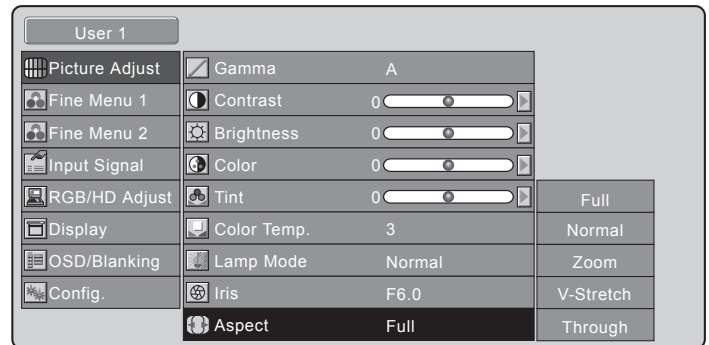

Figure 25
**Aspect** - Allows for changing the projected image size height to width ratio to compensate for the different image sizes from various sources materials such as film and TV video. Refer to figure 25 and the chart below.